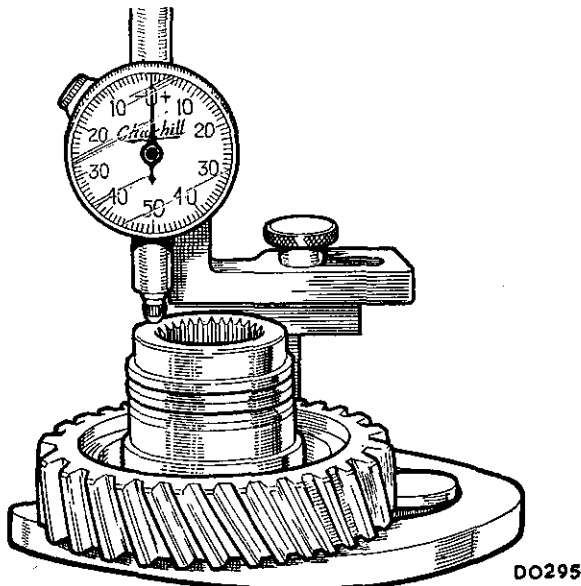

Fig. Aa.16
- (30) Carry out item (23).
- (31) Place the input gear on a surface plate or onto Service tool 18G 191 A and use a dial test indicator gauge, Service tool 18G 191, to take a mean reading. Set the dial gauge to zero as shown in Fig. Aa.16.